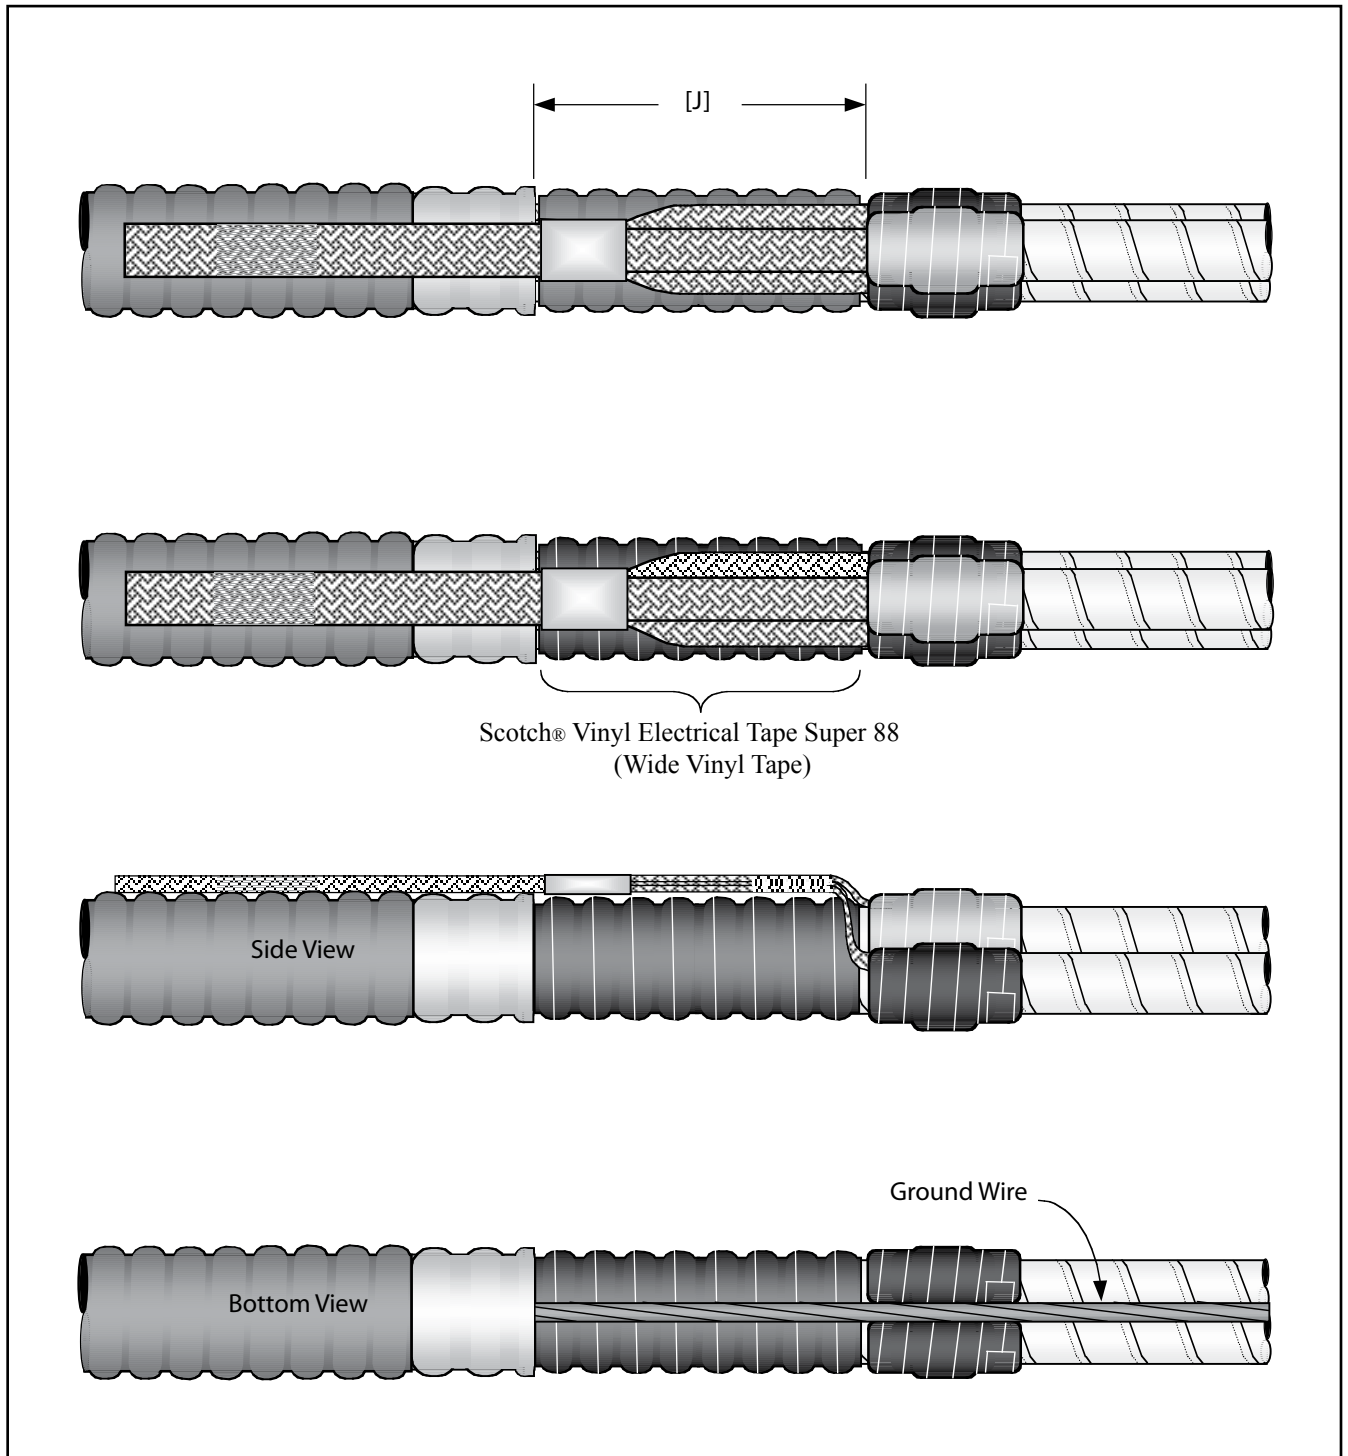

Figure 3
2.4 Measure distance [J] (Figure 3). Retrieve previously removed cable jacket material. Cut a straight piece to dimension [J] and wrap it around cable phases beneath ground strap assembly and cable ground wire. Secure jacket section in place using Scotch® Vinyl Electrical Tape Super 88 (wide vinyl tape) (Figure 3).